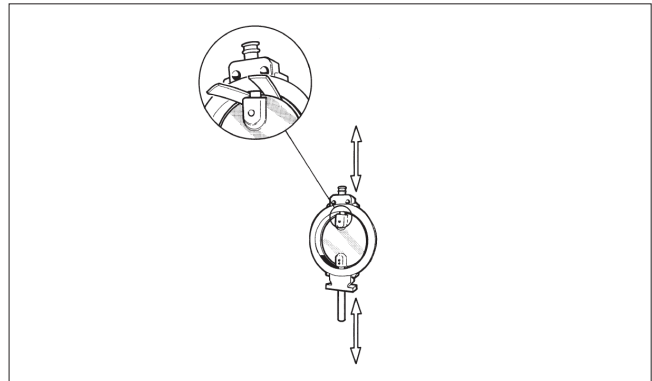

Fig. 17 Protecting the disc during disassembly and assembly
- Drill the holes carefully to the center of the pins (16). Choose a drill 0.2-0.5 mm smaller than the diameter of the pin.
- Dismantle the gland packing including anti-extrusion ring (23) according to Section 5.3.
- Detach the screws (44) and the blind flange (8) and remove the gasket (31).
- Place rubber strips or other protection between the disc edge and the body and remove the shafts (see fig 17).
- Remove the bearings (11).
- Set the disc (3) and the shaft (5 & 6) together beforehand. In case the pin holes have been damaged during removal of the old pins the holes can be drilled to a larger pin size. File off any burrs from the shafts.
- Mount the bearings (11) into the body (1) from flow port side.
- Place thrust bearings (12) at the end of the shaft
- Place the disc horizontally on a surface so that the flat side of the disc lays against the surface. Lift the body around the disc so that the shaft bores are aligned with the bores in the disc. Protect the disc (see Fig. 17).